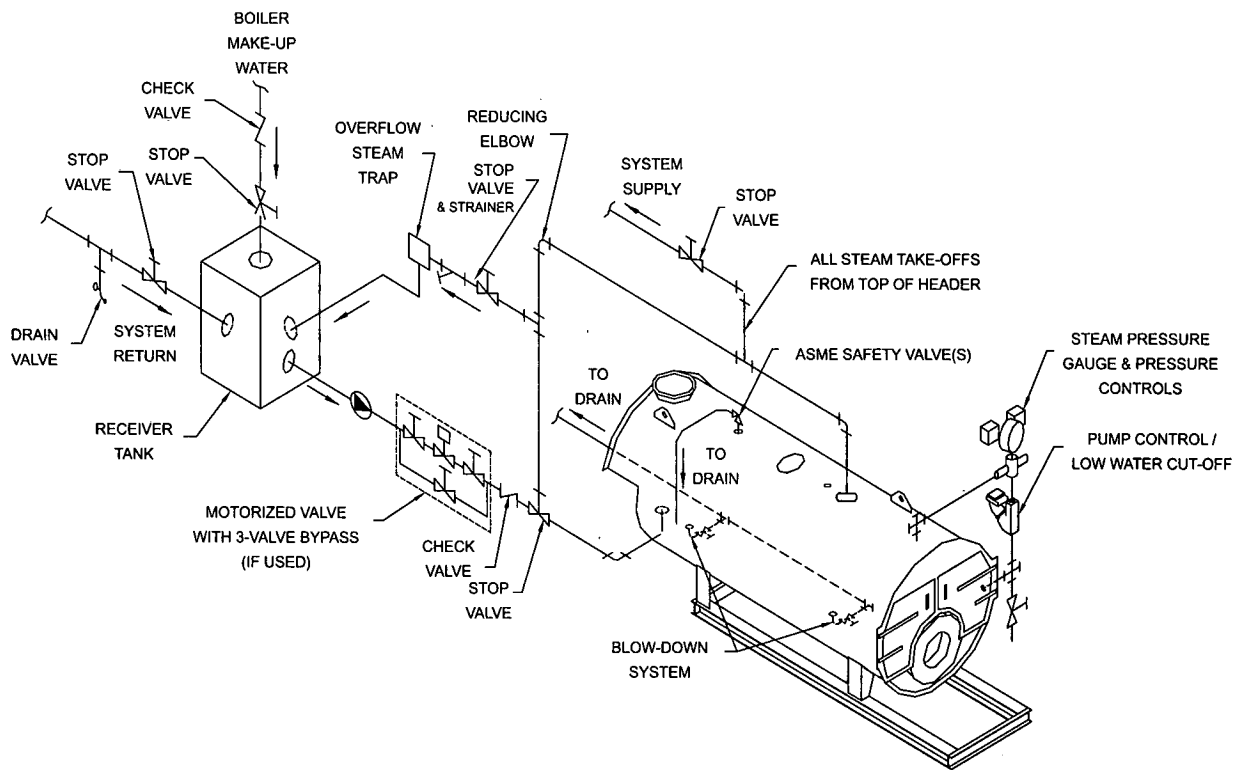

FIGURE 5
- B. If temperature differentials approach 40°F, to help prevent temperature fluctuations and insure proper circulation through the boiler, a recirculation loop as shown in Figure 5 should be considered.